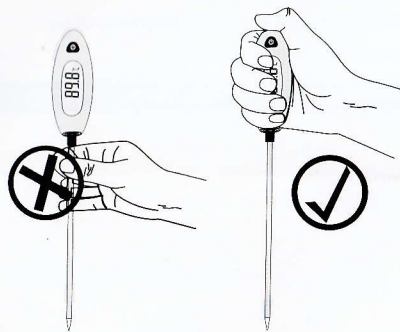

Figure 4
- Use this product by correct method (as shown in Figure 4), While measuring the high-temperature object don't touch the probe by hand so as to avoid scalding